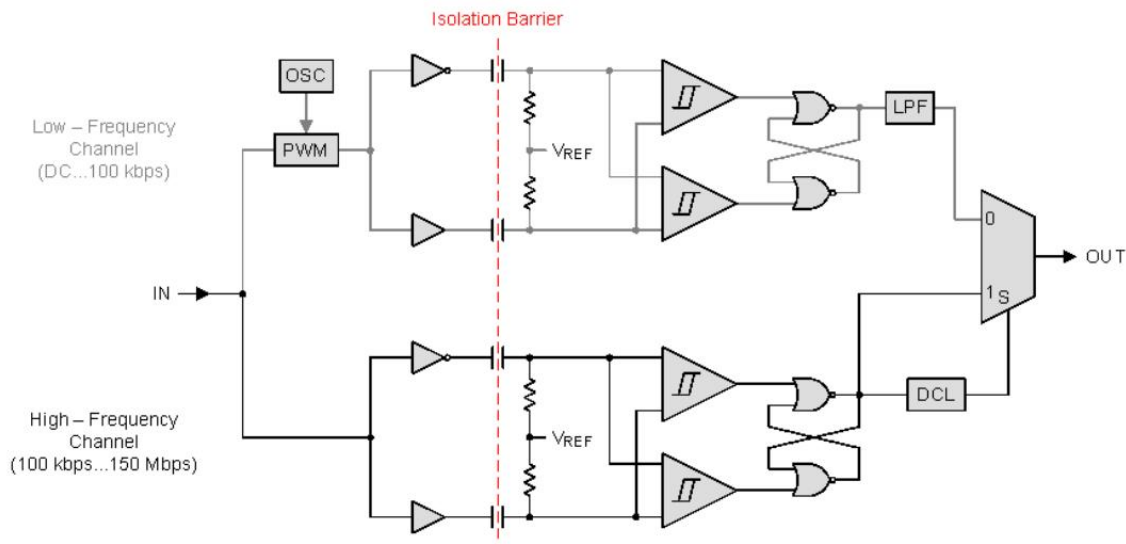

Figure 17. Conceptual Block Diagram of a Digital Capacitive Isolator
The isolator in Figure 17 is based on a capacitive isolation barrier technique. The I/O channel of the device consists of two internal data channels, a high-frequency channel (HF) with a bandwidth from 100 kbps up to 150 Mbps, and a low-frequency channel (LF) covering the range from 100 kbps down to DC. In principle, a single ended input signal entering the HF-channel is split into a differential signal via the inverter gate at the input. The following capacitor-resistor networks differentiate the signal into transients, which then are converted into differential pulses by two comparators. The comparator outputs drive a NOR-gate flip-flop whose output feeds an output multiplexer. A decision logic (DCL) at the driving output of the flip-flop measures the durations between signal transients. If the duration between two consecutive transients exceeds a certain time limit, (as in the case of a low-frequency signal), the DCL forces the output-multiplexer to switch from the high- to the low-frequency channel.